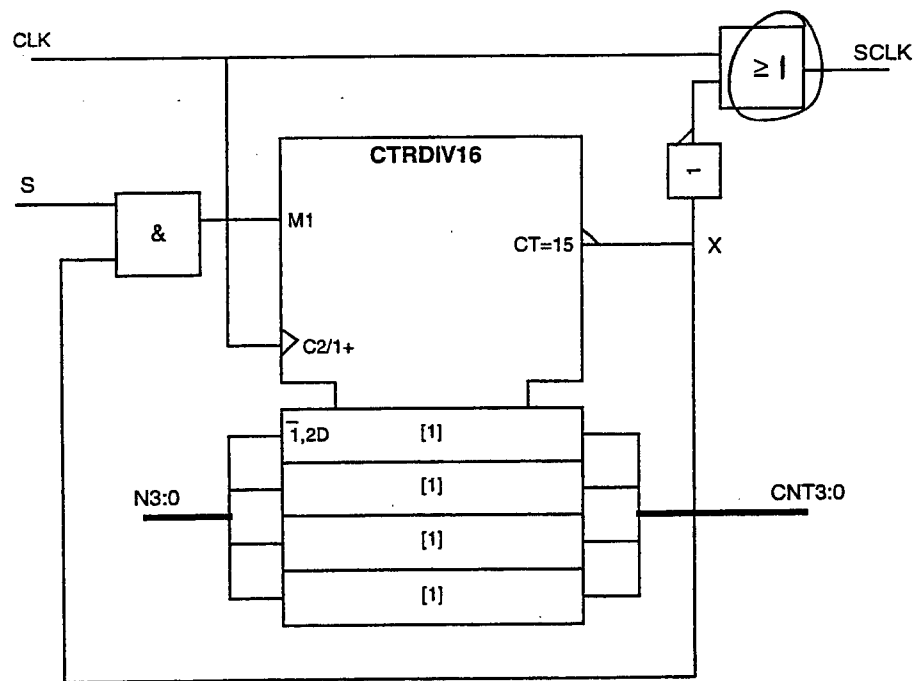

Figure 7.1
7. Figure 7.1 shows a clock controller circuit consisting of a 4-bit up-counter with synchronous load inputs M1. The preload input of the counter is connected to an unsigned 4-bit number N3:0. The counter output is CNT3:0. The signal X goes low whenever CNT3:0 equals to 15.